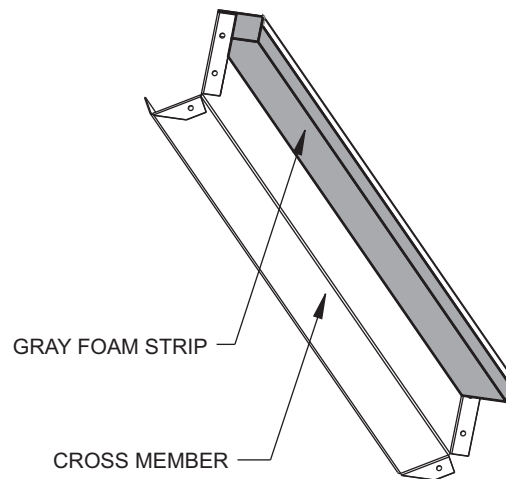

Fig. 20 — Adding Foam Strip to Cross Member
2. Add gray foam strip (provided) to cross members on bottom tray. See Fig. 20 for foam strip application.